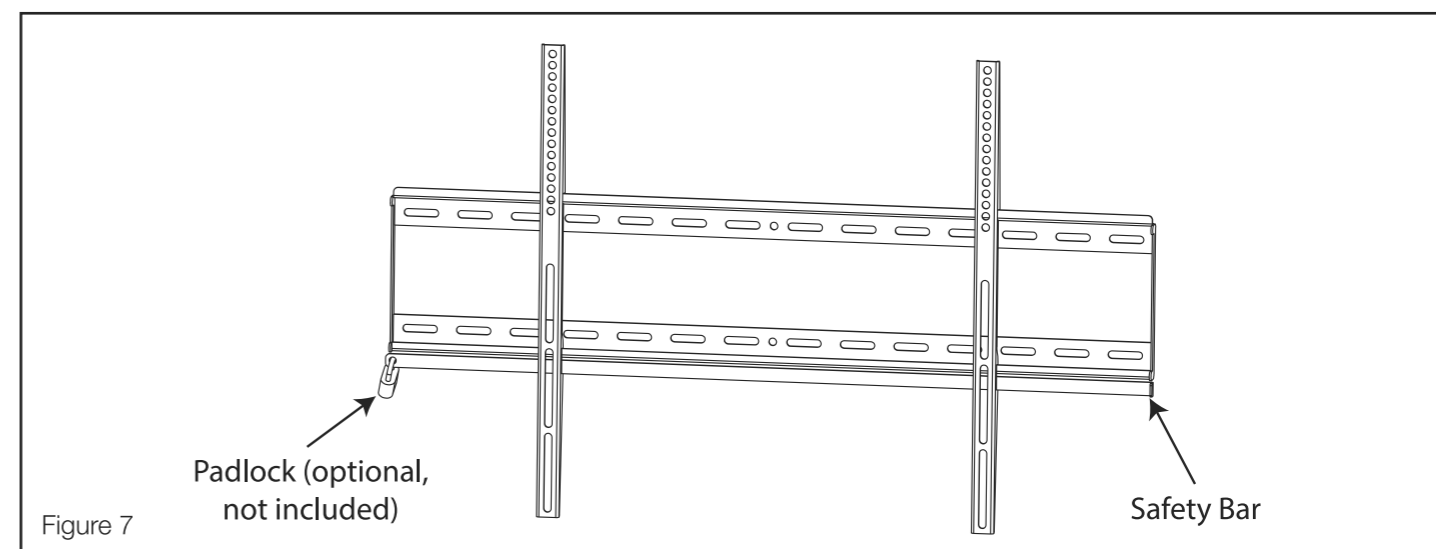

Figure 7
2. To secure your TV into position, slide the safety bar through the Wall Plate. This will help ensure that your TV does not fall off your Wall Plate during use (see Figure 7). A padlock can be inserted into the far end of the rod to help prevent theft.